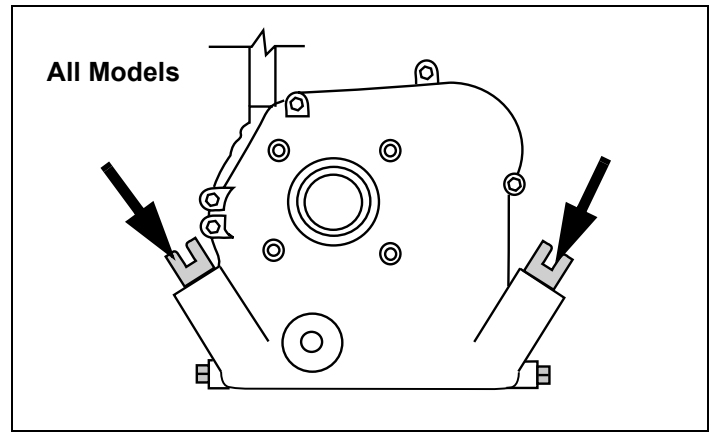

Figure 9. Oil Fill Plug Locations
2. Clean area around oil fill plugs. See Figure 9.